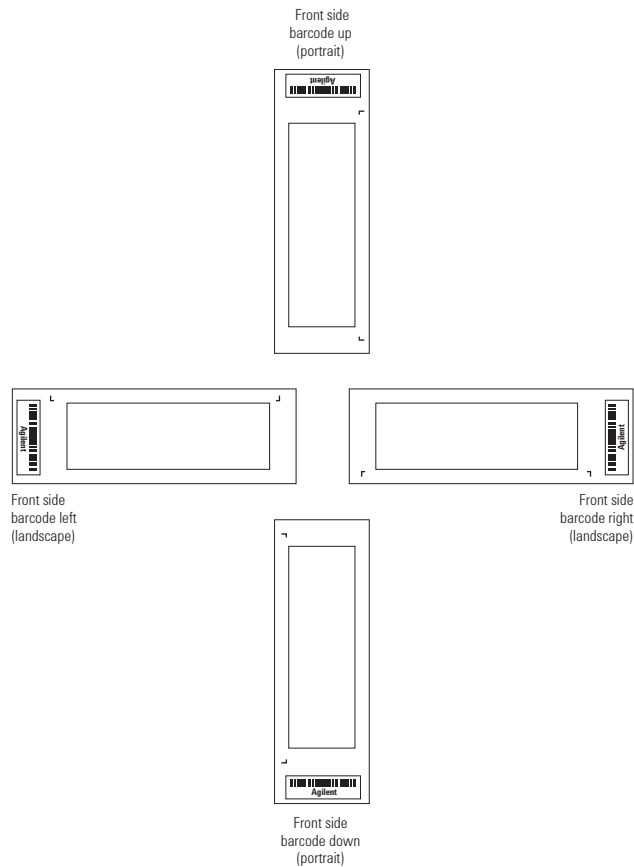

Figure 32. Microarray slide orientation
- If the microarray image produced by the non-Agilent scanner is oriented in a “portrait” or “landscape” mode, and “Agilent”-labeled barcode is on the left-side, right-side, up or down, as viewed as an image in the imaging software (see **Figure 32**).